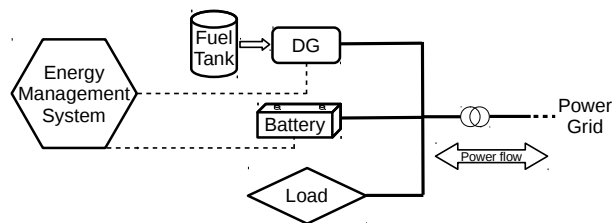

Figure 1: Schematic structure of the considered microgrid.
We consider a microgrid that is connected to the main power grid. Figure 1 presents a schematic diagram of the considered microgrid, where diesel generators (DG) units and their fuel tanks, batteries, and an energy management system (EMS) are the devices considered in this assignment. Assume that the EMS has an accurate prediction of the load in the microgrid and is able to communicate with diesel generators and batteries without any delay. We assume that the electrical connection between the microgrid and the power grid does not have any physical limit and, hence, the power balance of the microgrid is always maintained. In other words, the amount of power used by the load and the charging batteries is equal to the power provided by the power grid, diesel generators, and the discharging batteries.